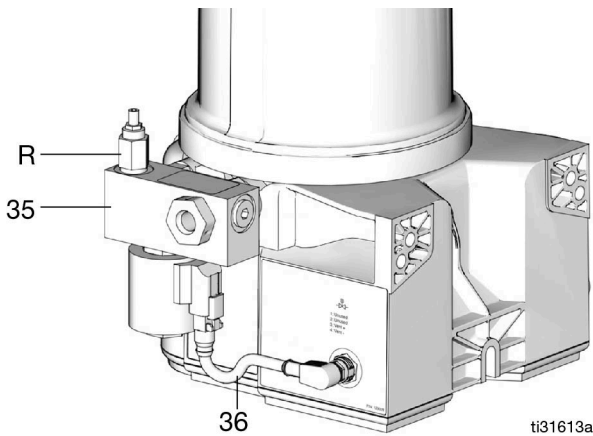

FIG. 24
Connect one end of the vent valve cable (36) (Graco Part No. 129801) to the vent valve connector on the pump. Connect the other end of the cable to the vent valve (35) (FIG. 24).
Pressure Relief Valve (R) (FIG. 24)